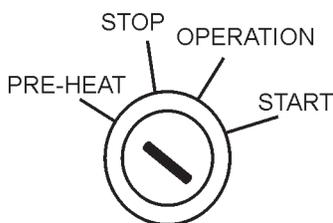
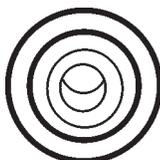

Figure 49. Ignition Switch (Pre-Heat Position)
Figure 50. Pre-Heat Indicator Lamp
6. Preheat the engine **glow plugs** by turning the ignition key (Figure 49) to the “**PRE-HEAT**” position.
7. When the preheat lamp luminates (Figure 50), turn the ignition key to the “**START**” position. Once the engine starts, release the ignition key and allow it to return to the “**OPERATION**” position (Figure 49).